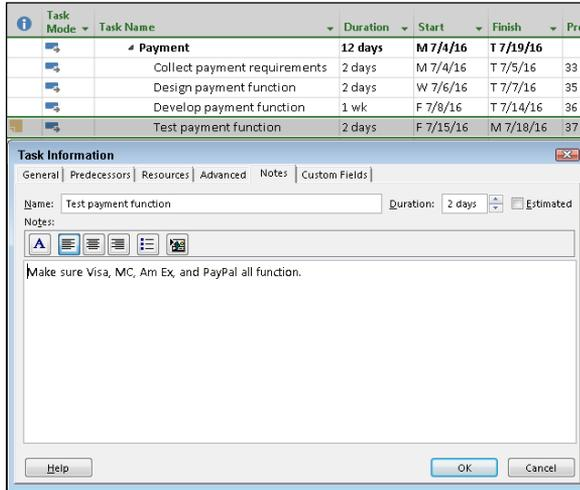

Figure 3-9:
2. Select the Notes tab, as shown in Figure 3-9.